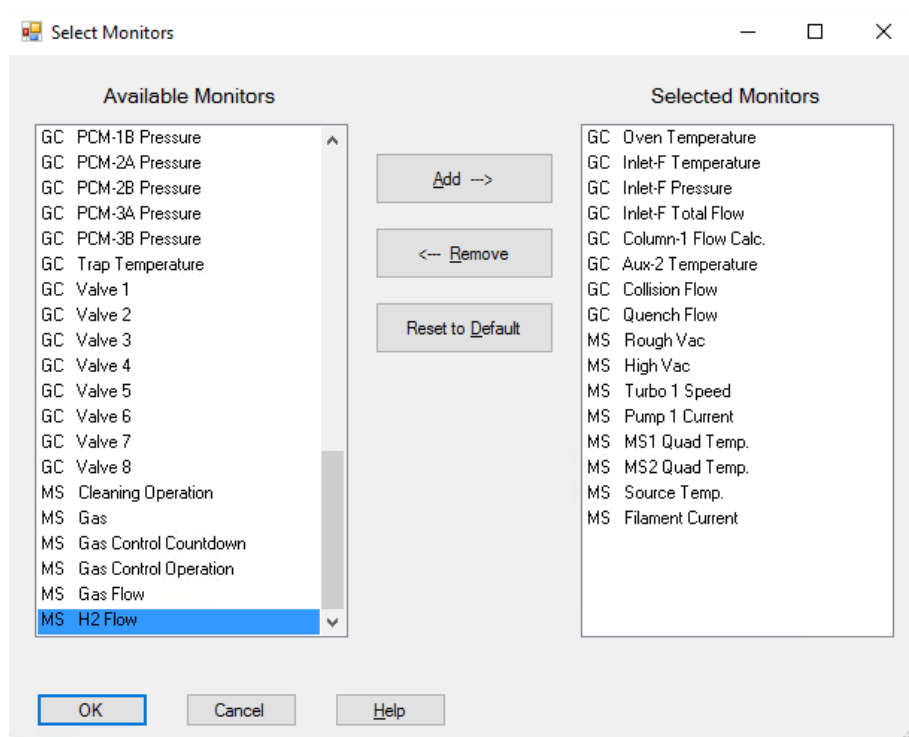

Figure 30. Select Monitors dialog box
- 1 Select **Method > Edit Monitors** to display the **Select Monitors** dialog. (See Figure 30.)